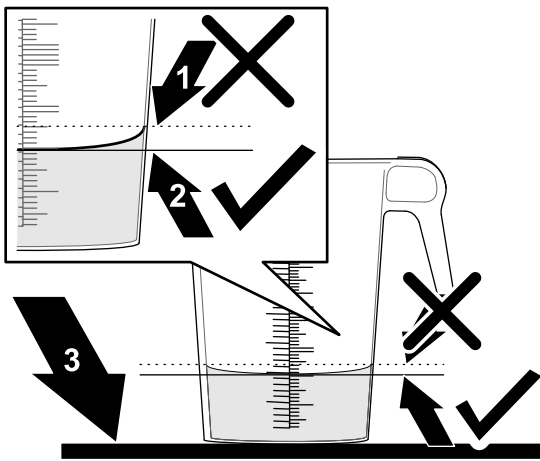

Figure 42
6. Set the graduated container on a level surface and note the fluid volume (Figure 42).